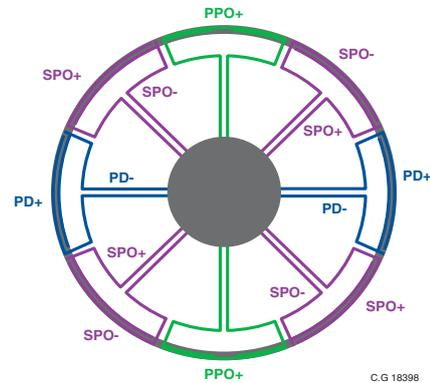

Figure 14.3(a)
**Referring to Figures 14.3(a) to 14.3(d)**